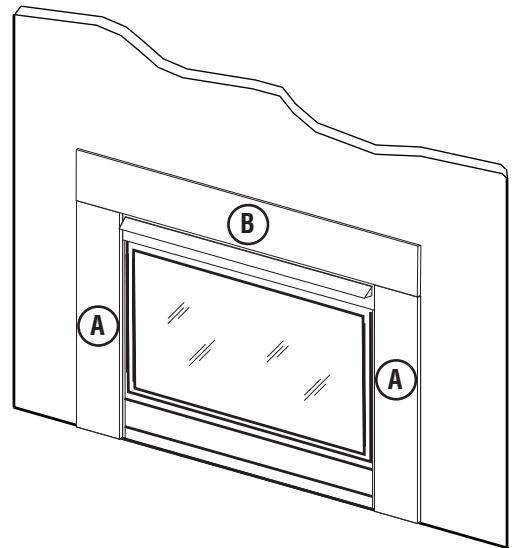

Figure 5 - Installing Three Piece Surround Face
4. Install top surround panel (**B**), flush with surround sides as shown in Figure 5.
NOTE: See Figure 5 for an illustration of the completed installation.